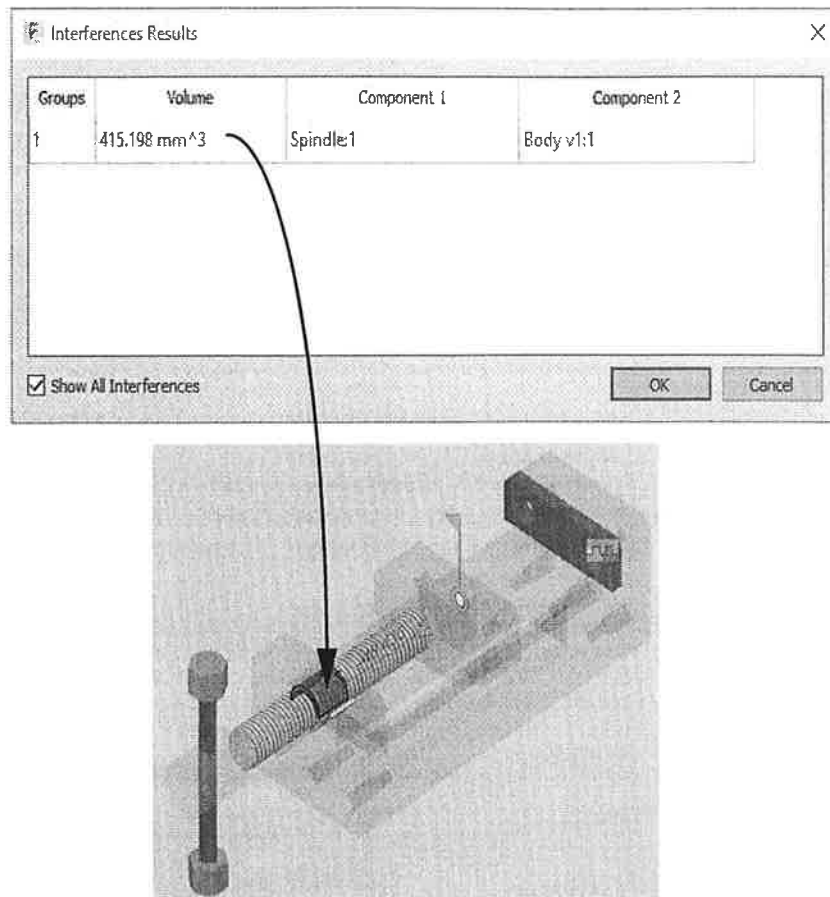

Figure 15–25
12. In the *Compute* area, click  (Compute) to run the analysis. The Interference Results dialog box and the model display as shown in Figure 15–25, indicating that there is interference. The interference occurs because the center point on the face of the MovingJaw was not in line with the axis of the hole. A new joint origin must be created to place this component.